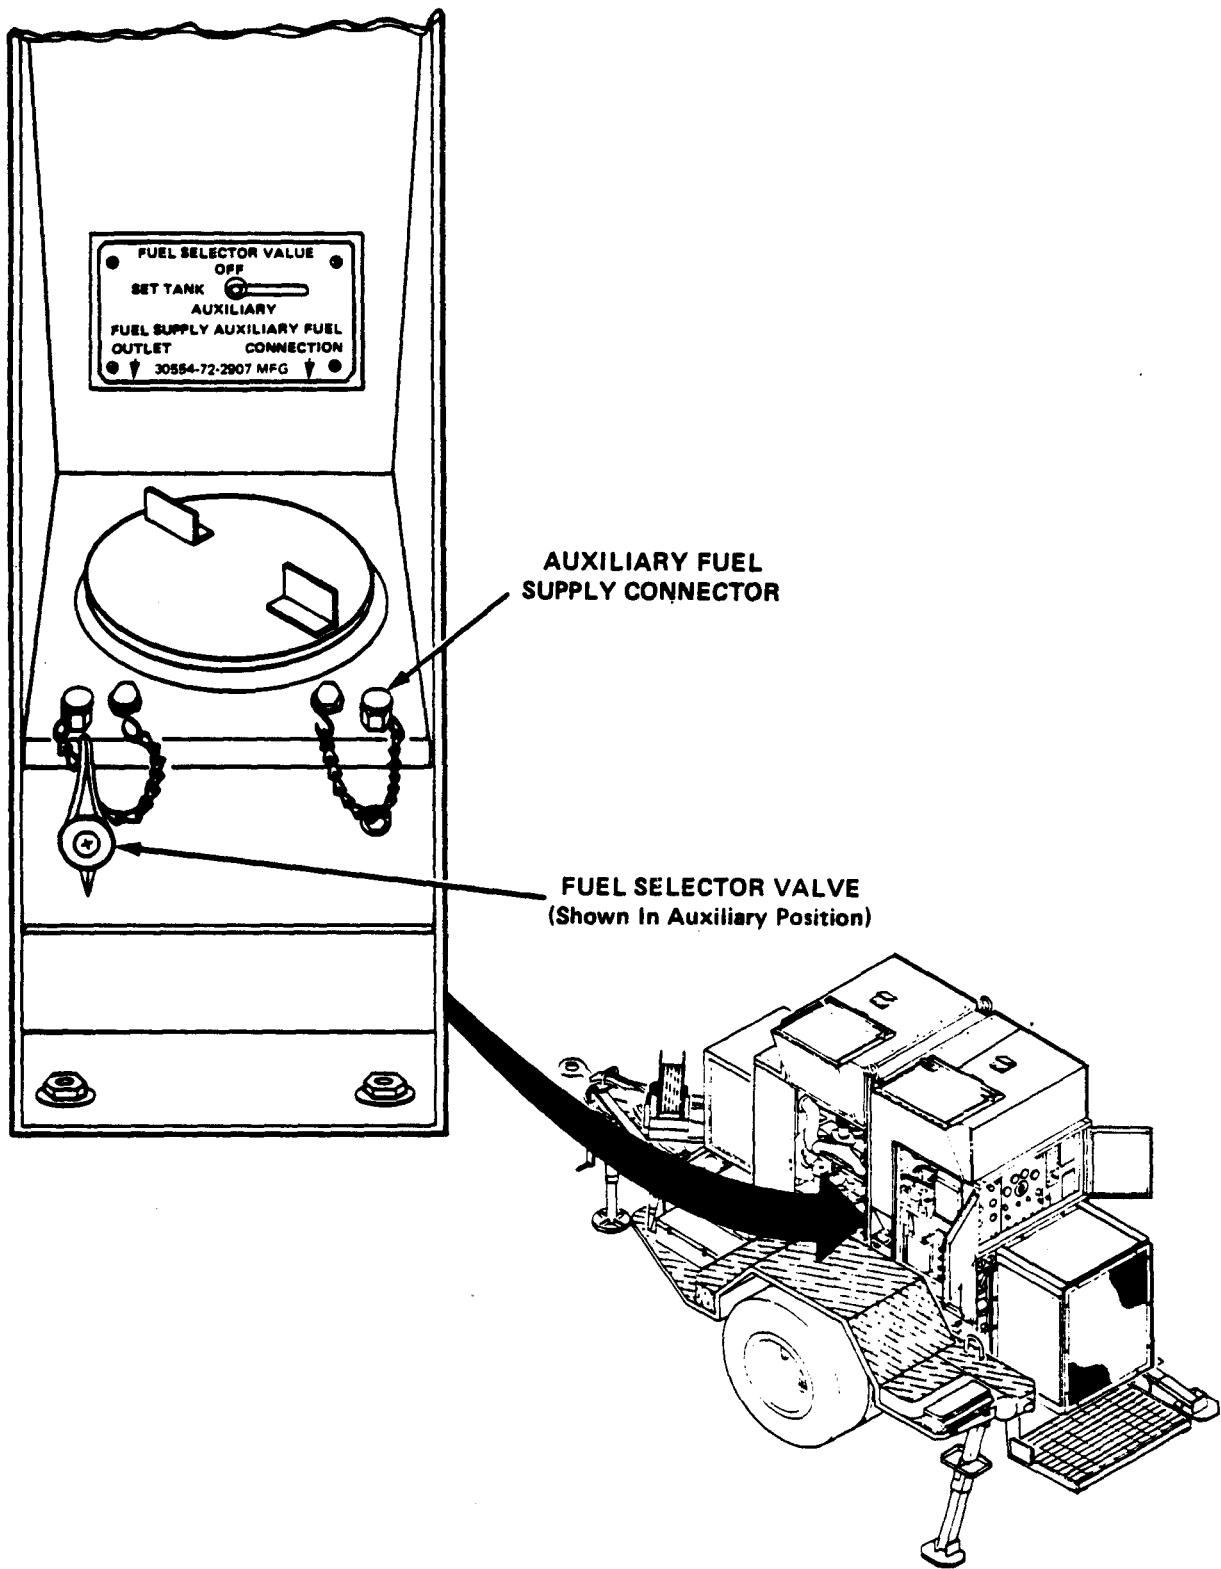

Figure 1-4. External Line Connections
- (1) Connect one end of the auxiliary fuel line to the PU 794/G auxiliary fuel supply connection located below the integral tank filler cap (Figure 1-4).
- (2) Connect other end of the auxiliary fuel line to the auxiliary fuel source.
- (3) Position the fuel selector valve in the AUXILIARY position (figure 1-4).